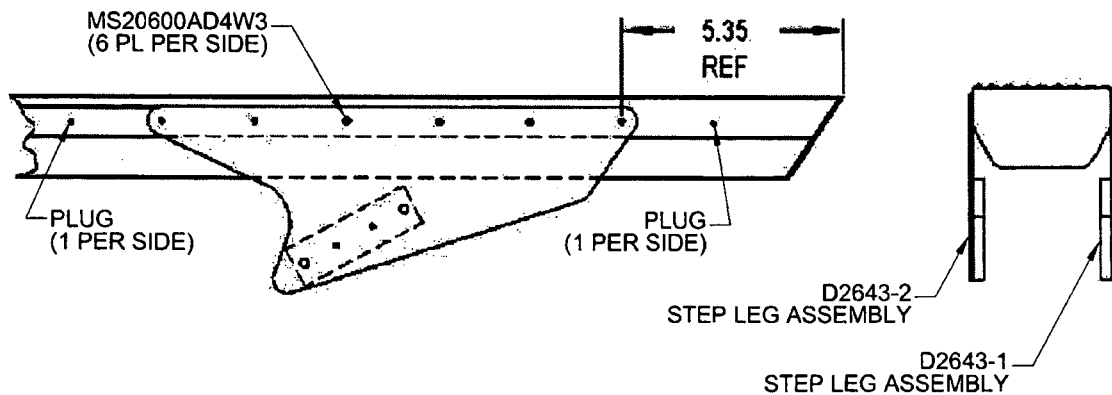

FIGURE 2
- 2.2 On left side of forward end of Step, install Step Leg Assembly D2643-1 using qty 6 MS20600AD4W3 rivets. See Figure 2.
- 2.3 On right side of forward end of Step, install Step Leg Assembly D2643-2 using qty 6 MS20600AD4W3 rivets. See Figure 2.